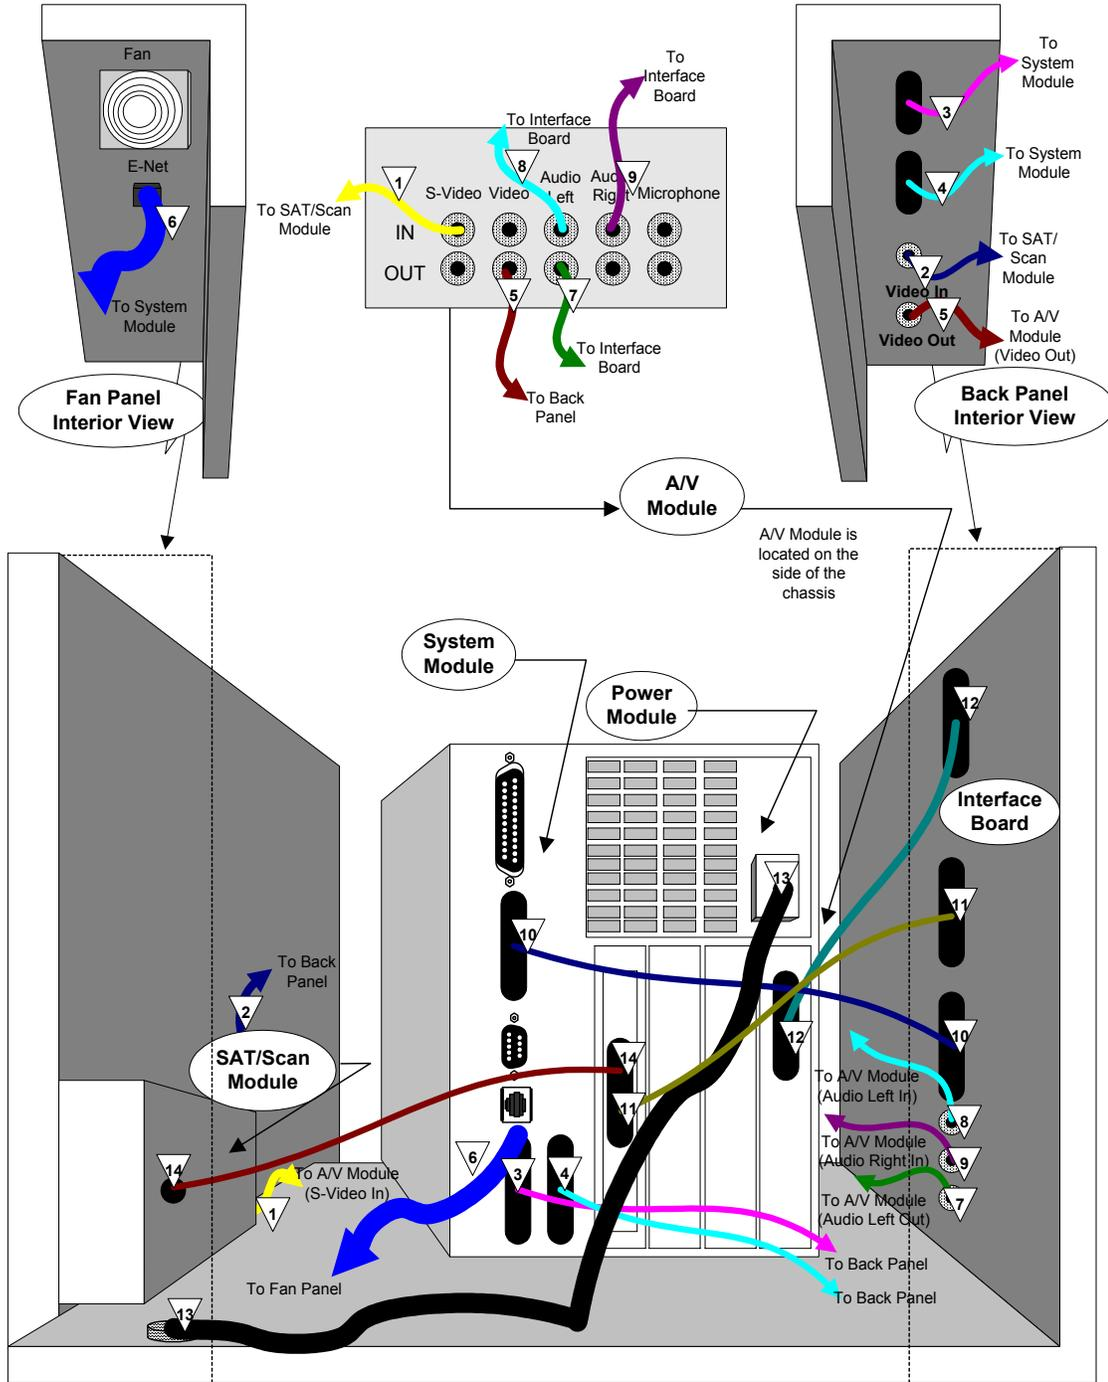

Figure 12. Weather Star XL Cable Diagram.
Figure 12 and Table 2 show correct cable connections for the Weather Star XL.
* Triangle color corresponds to the cable color in Figure 12: Weather Star XL Cable Diagram